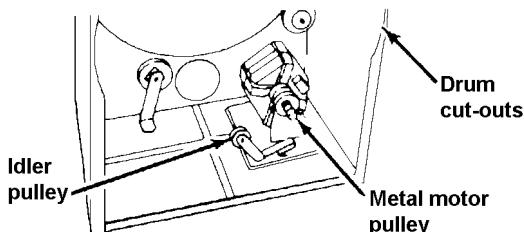

Figure 6
1. If drum belt is not broken, remove belt from metal motor pulley. See Figure 6.
2. The drum can then be lifted through the cut-offs on the front flange of the cabinet sides. See Figure 6.